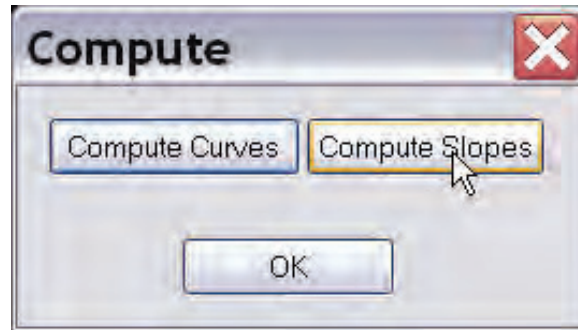

Figure 42. Recon info window
13. Press the “Edit Recon Properties” button  on the toolbar on the right side of the screen. The “Recon Info” window will be displayed (Figure 42).